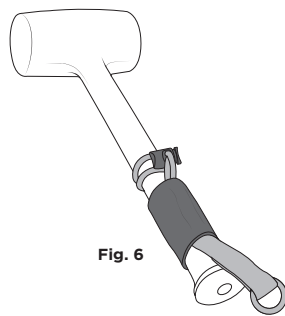

Fig. 6
- Continue to pull the inner core through the center of trap until it is completely removed [fig 6].
- Siga tirando del tubo interior, pasándolo por el centro del enganche hasta sacarlo del todo [fig. 6].